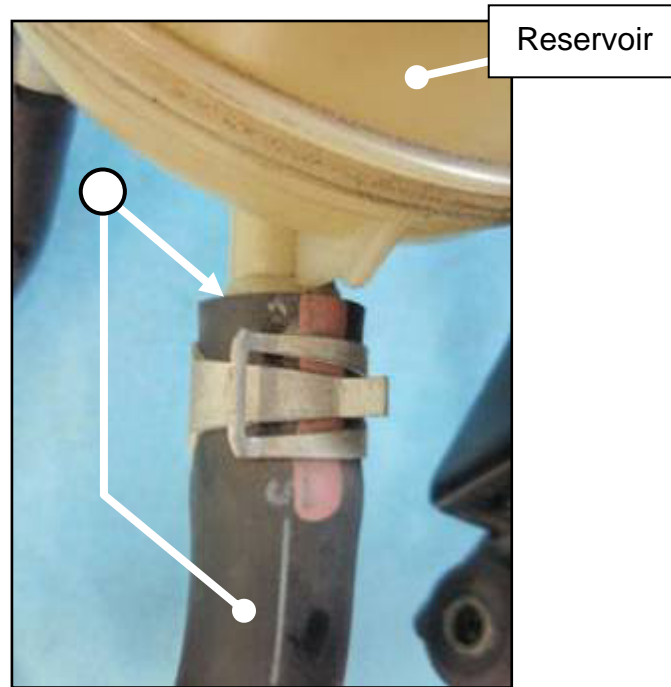

Figure 3
- For sample locations of inspection, see Figure 3, 4, and 5 below.